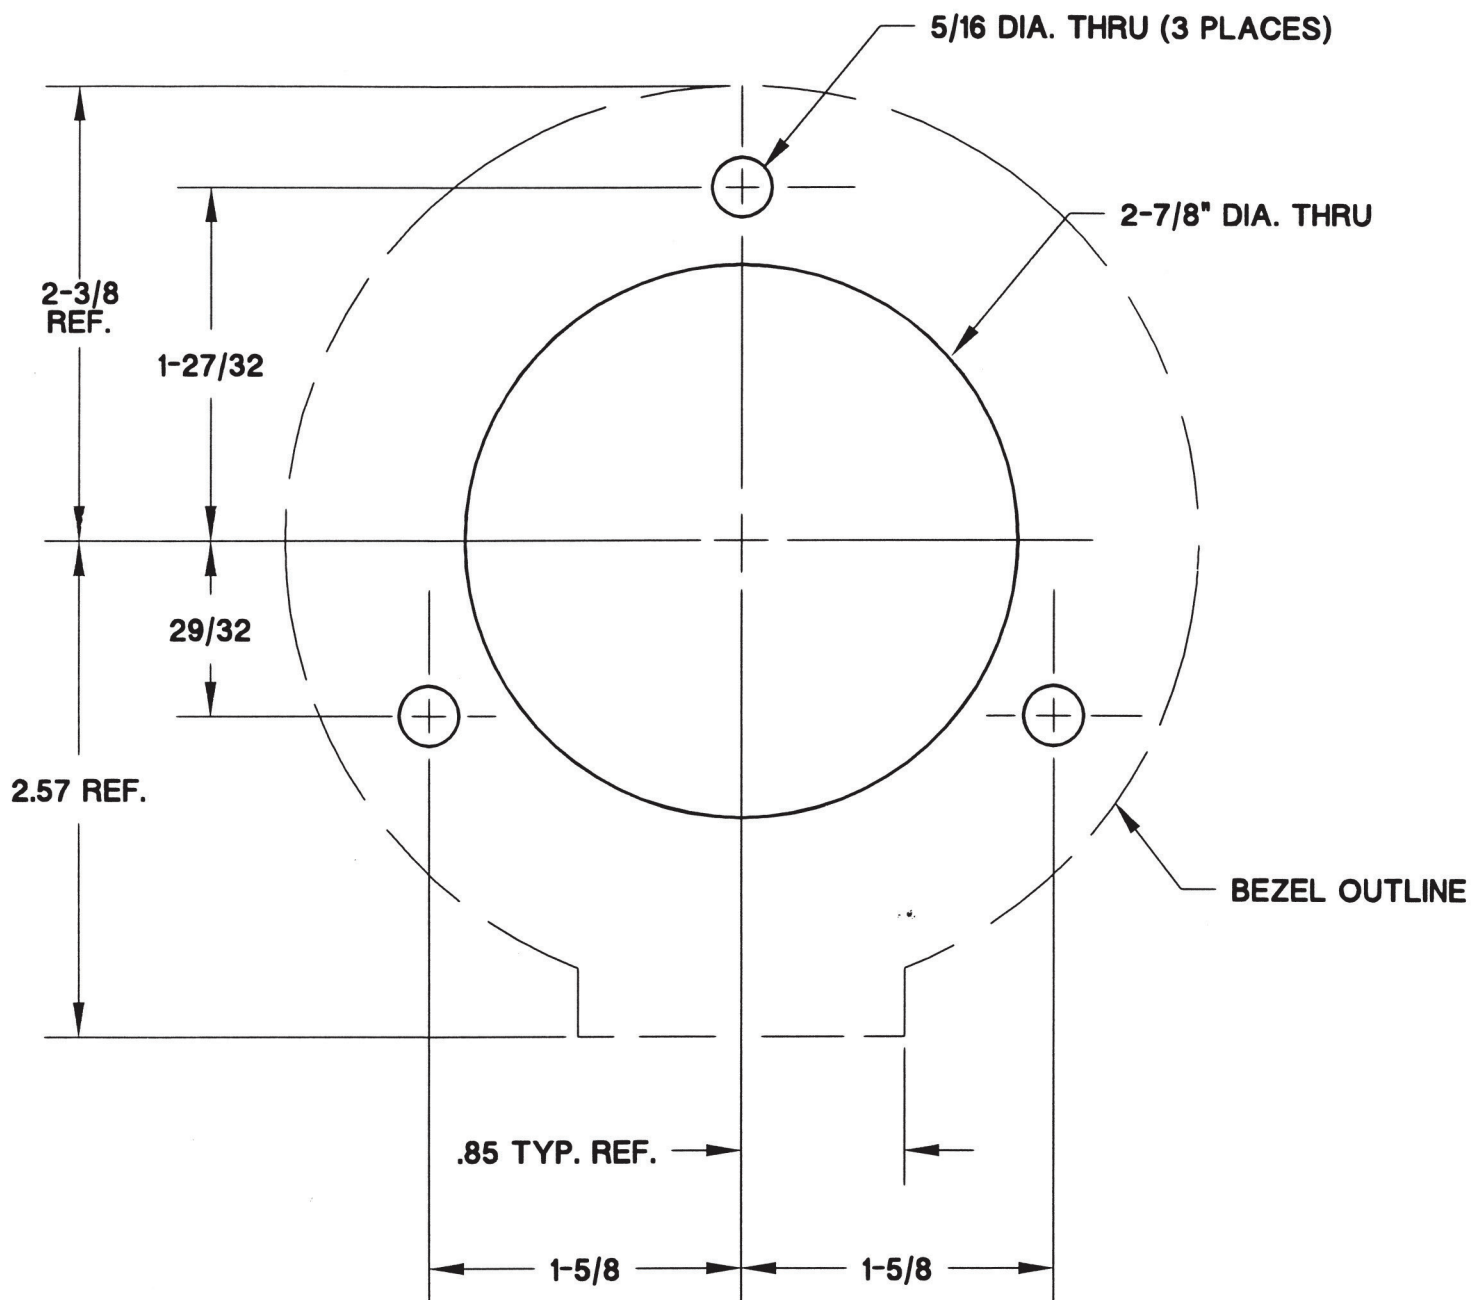

Figure 4.
STEP 2. Position the template (Figure 4) on the console or dashboard at the location previously marked, and drill three holes 5/16" diameter and one hole 2-7/8" diameter.